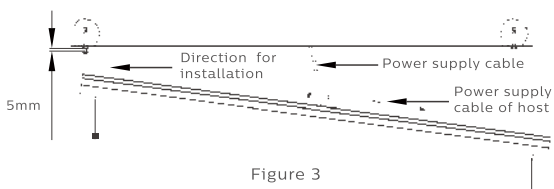

Figure 3
1. As shown in Figure 3, carefully hold the host and fix it with expansion screws, washers and fasten nuts.